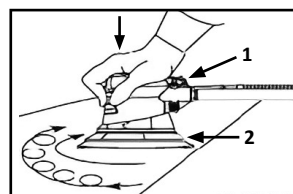

Fig. 5
3. Press the trigger (1) and move the air sander (2) in an oscillating motion to produce a smoother finish on the workpiece. (Fig. 5)